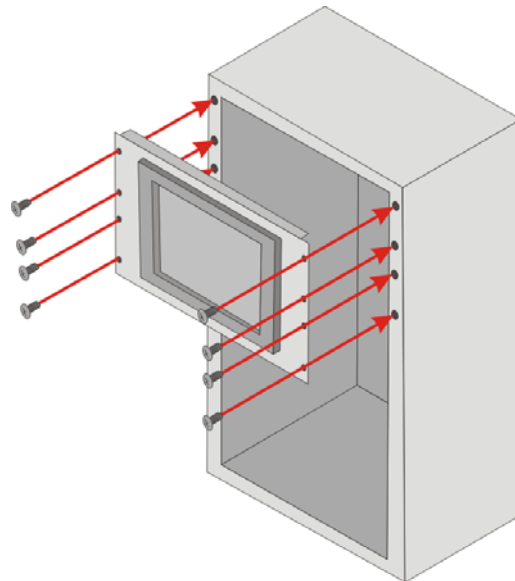

Figure 4-14: Install into a Rack/Cabinet
Step 4: Slide the flat bezel panel PC with the attached rack/cabinet bracket into a rack or cabinet (**Figure 4-14**).
Step 5: Once the flat bezel panel PC with the attached rack/cabinet bracket has been properly inserted into the rack or cabinet, secure the front of the rack/cabinet bracket to the front of the rack or cabinet (**Figure 4-14**).